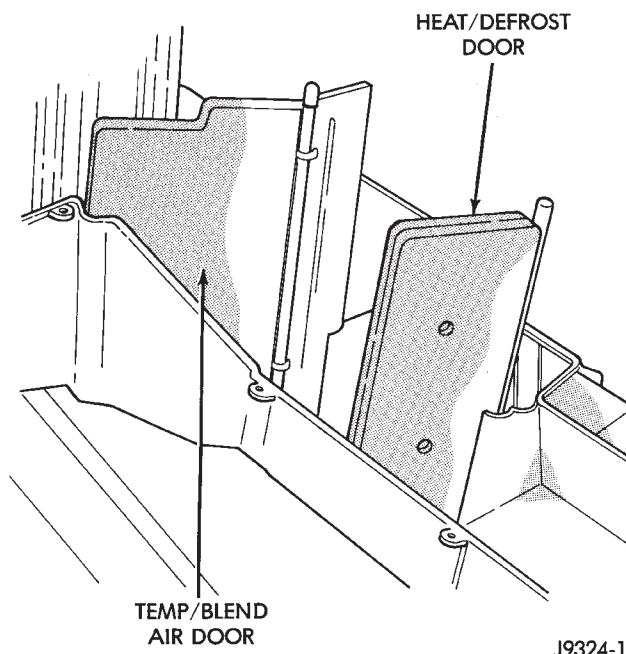

Fig. 25 Heat/Defrost Door
(6) Remove the bottom half of the heater-A/C unit.
(7) Remove the door (Fig. 25).